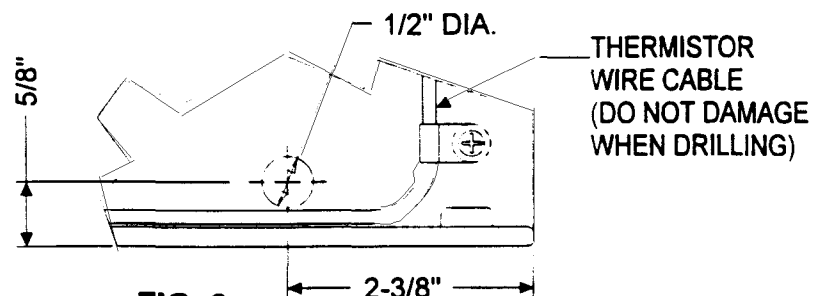

FIG. 3
* If left wall does not have a hole in it, drill a 1/2" dia. hole as shown in Fig. 3.